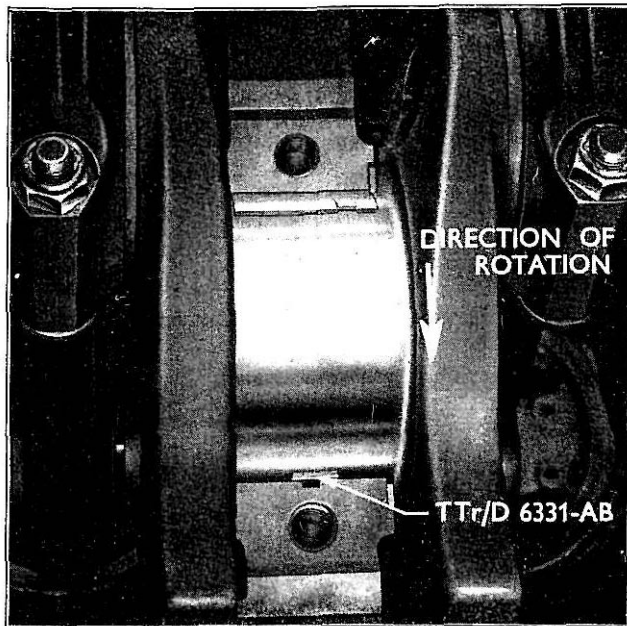

Fig. 75
- 4 Carefully turn the crankshaft against the normal direction of rotation until the upper half of the liner is brought to such a position that it may be removed (see Fig. 75).